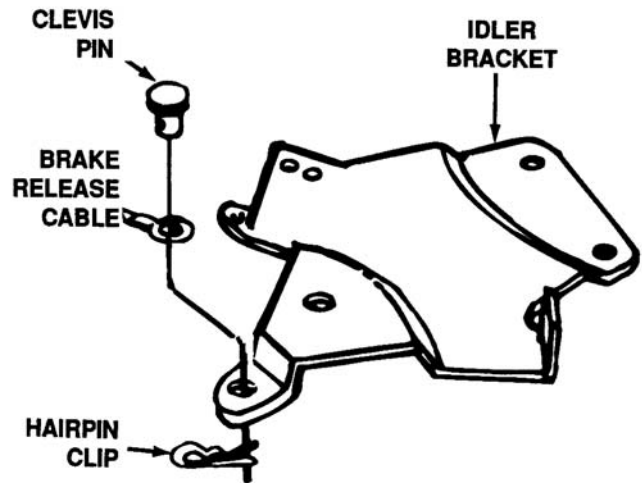

Figure 8-26. Tractor Idler Bracket
11. Secure brake release cable to tractor idler bracket with clevis pin and small hairpin clip using the hole in the idler bracket. See Figure 8-26.